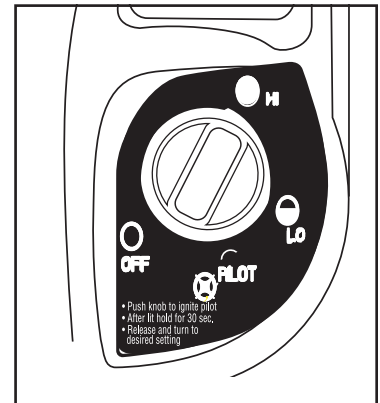

Figure 1: Off position.
- Make sure four-position Control Knob is in "OFF" position; see Figure 1.
see Figure 1, at left.